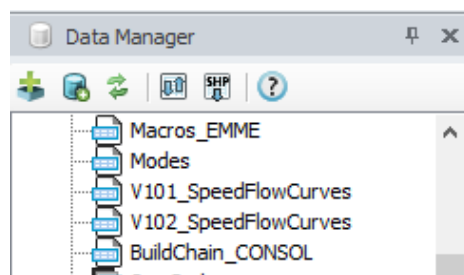

Figure 92 Data Manager
- 3) Select BuildChain_CONSOL in data manager window, see Figure 92